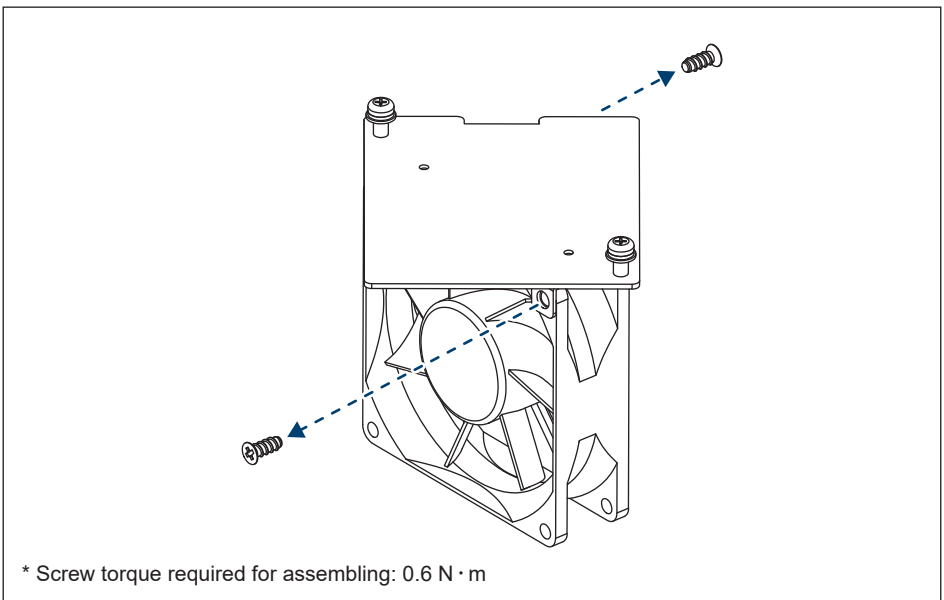

Figure 5-13: Replace with a new fan
- (4) Lift the entire fan assembly. **(Figure 5-13)**
- (5) Clean assembly or replace with a new fan.
- (6) Reassemble by using 0.8 N · m tightening torque.